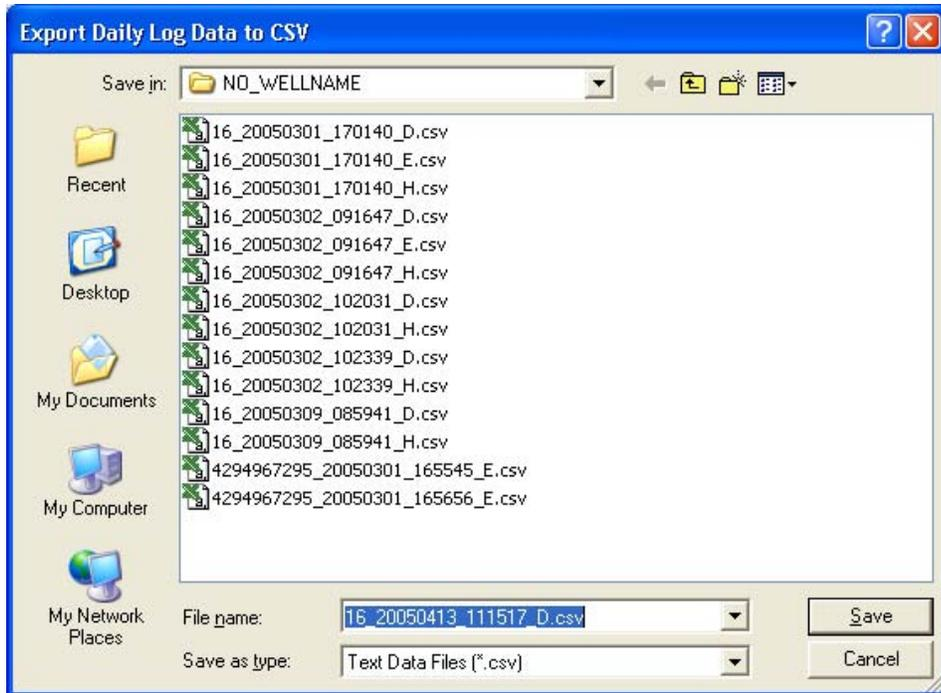

Figure 5.13—Default directory for exported log files
2. When the “Export Daily (or Hourly) Log Data...” window appears, click “Save.” By default, exported logs are saved in C:\NuFlo log data\MC-III<WELL NAME>, however the user can specify a new location, if desired (Figure 5.13, page 81). The “wellname” folder will bear the well name that appears on the Wellsite Information screen. If no well name is entered on this screen, the folder will be named “NO\_WELLNAME.”